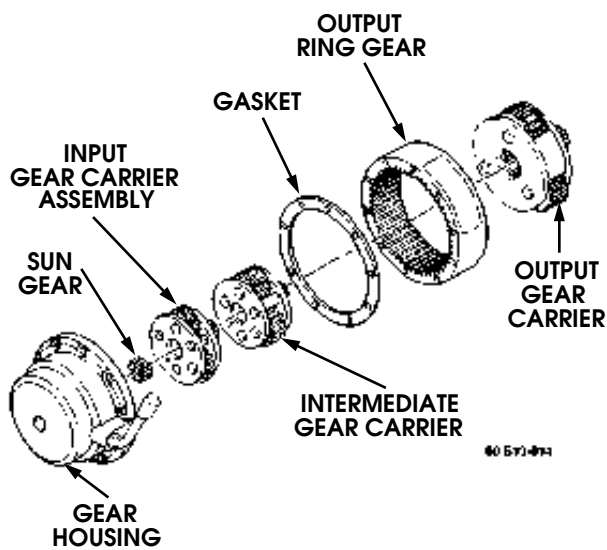

Figure 13-16: Gear Carriers
6. Apply aircraft grease to output gear carrier, intermediate gear carrier, and input gear carrier assembly (Figure 13-16).